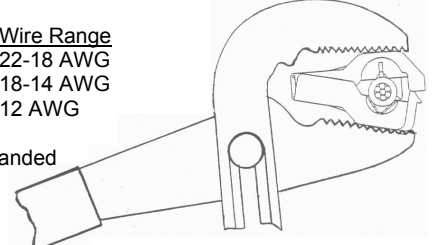

Fig.1
For 22-16 AWG wires, refer to Fig. 1
3. Position the connector into the tongue-and-groove pliers as shown and carefully squeeze until the latch engages (Fig.1).